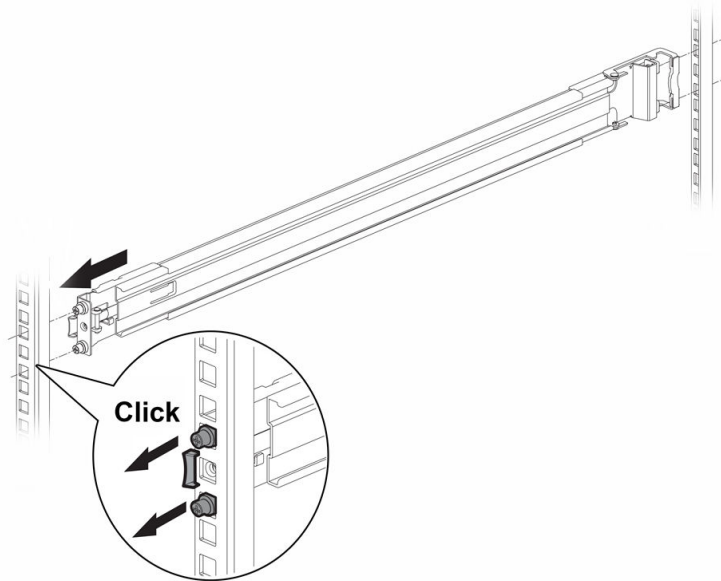

Figure 8: Attaching the Slider Assembly to the Front Rack Post
- a. Push the pegs on the front of the slider assembly through the holes in the front rack post, until they snap into place. See Figure 8.